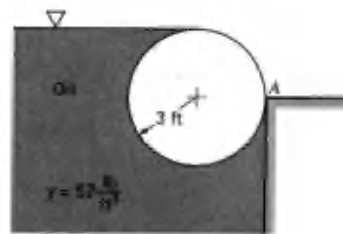

FIGURE P2.14R
2.14R (Force on curved surface) The 9-ft-long cylinder of Fig. P2.14R floats in oil and rests against a wall. Determine the horizontal force the cylinder exerts on the wall at the point of contact, A.